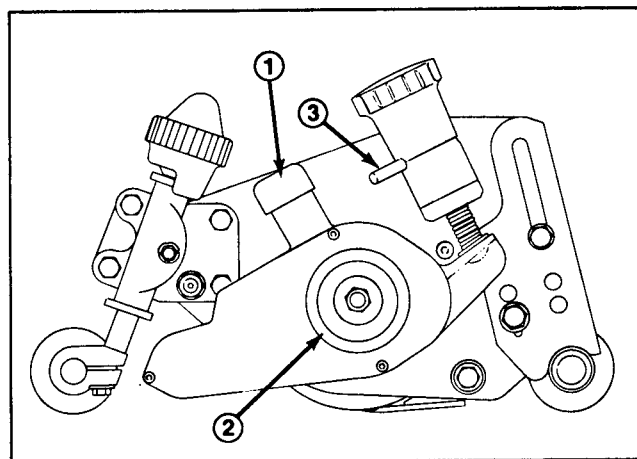
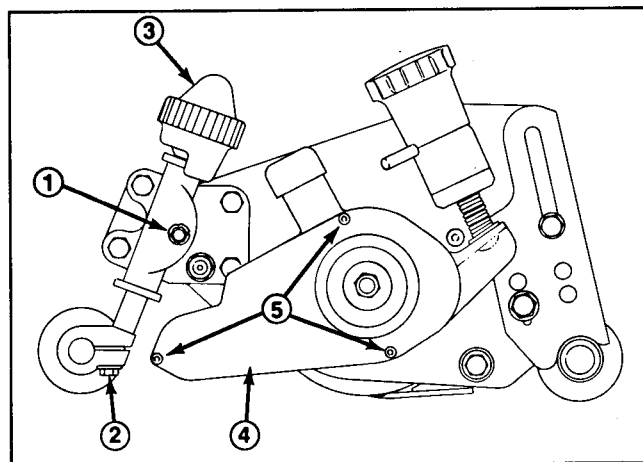
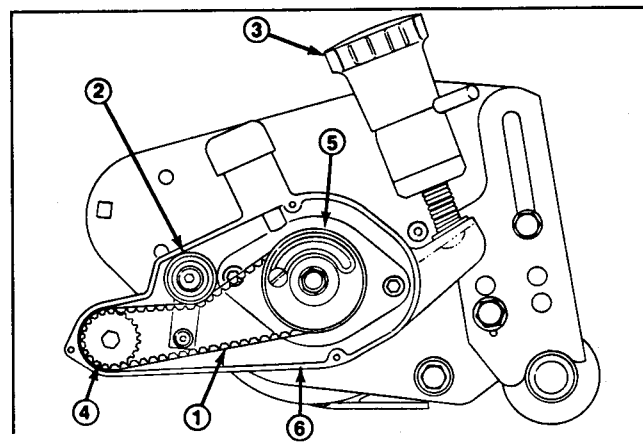
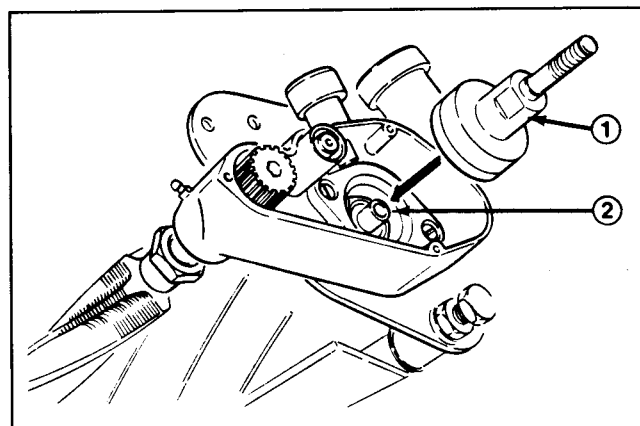

Figure 6
Figure 8
Figure 9
Figure 10
3. Make sure the groomer reel is in the raised position. Raise the groomer reel by rotating the right and left quick up levers so they face to the rear (Fig. 6.)
4. Make sure the groomer reel is disengaged. Push the clutch snubber down and turn the clutch knob clockwise to disengage the clutch (Fig. 6).
2. Loosen two (2) set screws and remove clutch knob (Fig. 6). Remove groomer reel housing cover from left side of cutting unit (Fig. 8). Loosen idler pulley and remove drive belt. (Fig. 9).
4. Remove nut and washer from clutch adapter shaft. Pull clutch assembly off adapter shaft (Fig. 9). Remove clutch adapter from reel shaft (Fig. 10).
5. Loosen large reel bearing adjustment nut (Fig. 10). Tighten nut until all reel shaft end play is removed, then tighten an additional 1/16 to 1/8 turn. Be certain to remove all end play, but do not over-tighten. Rolling torque should not exceed 7 in-lb.
7. Install clutch adapter on reel shaft (Fig. 10) and tighten to a torque of 170 - 210 in-lb.